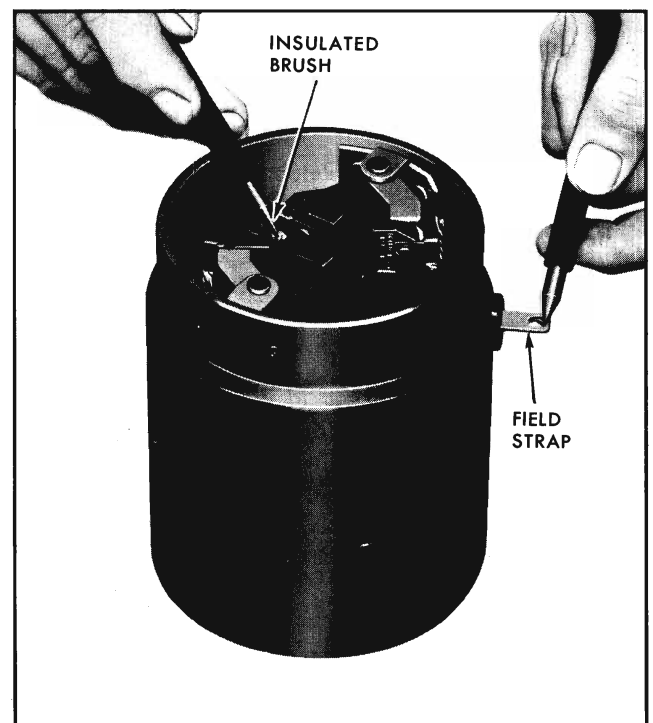

Fig. 11-10 Testing Field Coils for Open Circuit
2. **Open**—Touch one test lamp lead to insulated brush and one lead to field connector strap (Fig. 11-10). If lamp does not light, the series field coils are open.